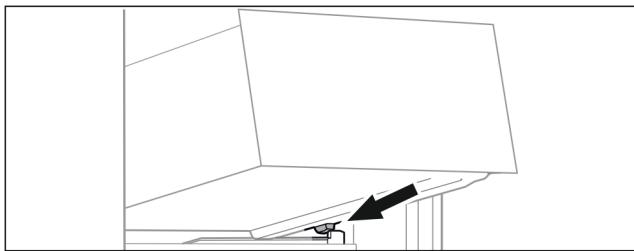

Fig. 72
- Place drawer at an angle behind the stoppers on the moulded rib. (see Fig. 72)